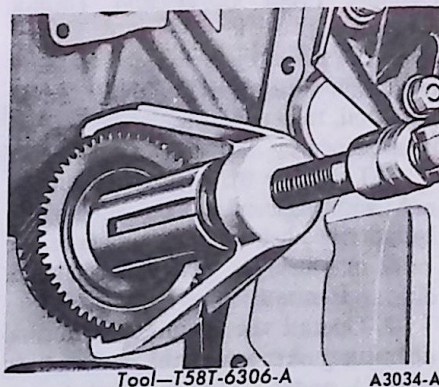

FIG. 16 Removing Crankcase Gear
14. To remove the crankshaft gear, install the tool shown in Fig. 16 and pull the gear off the shaft.